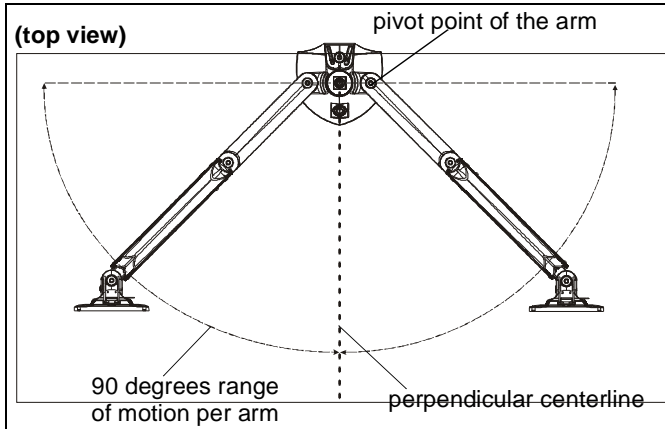

Figure 4
1. Adjust arm angles as desired within a 90 degree range from the pivot point of the arm and a perpendicular centerline of mount. (See Figure 4)